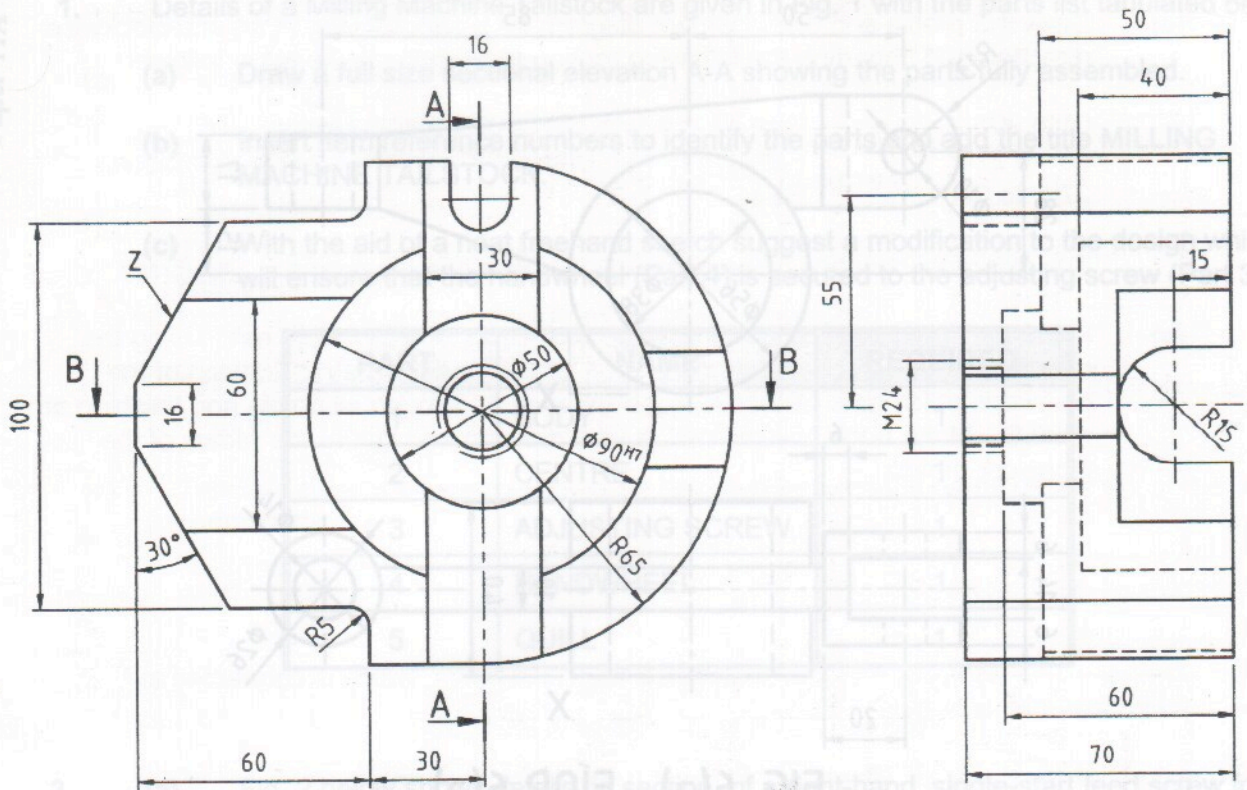

FIG. 3 FÍOR 3
3. Drawings of a Control Bracket, in first angle projection, are shown in Fig. 3.